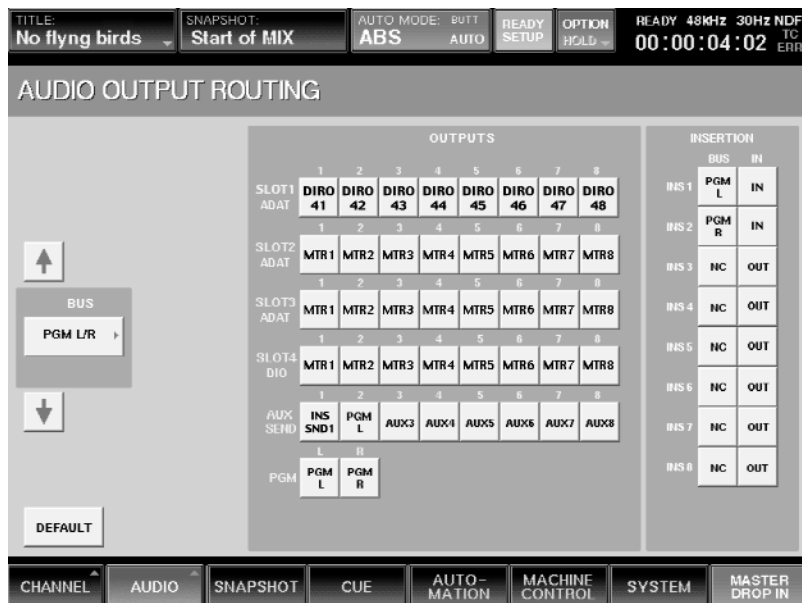

Figure 28
- 5 From the INS SEND 1-8 Bus drop-down menu, press 1, then press AUX SEND 1 in the Outputs section (center of the screen). INS SND1 will be selected for Aux Send 1. (See Figure 28)